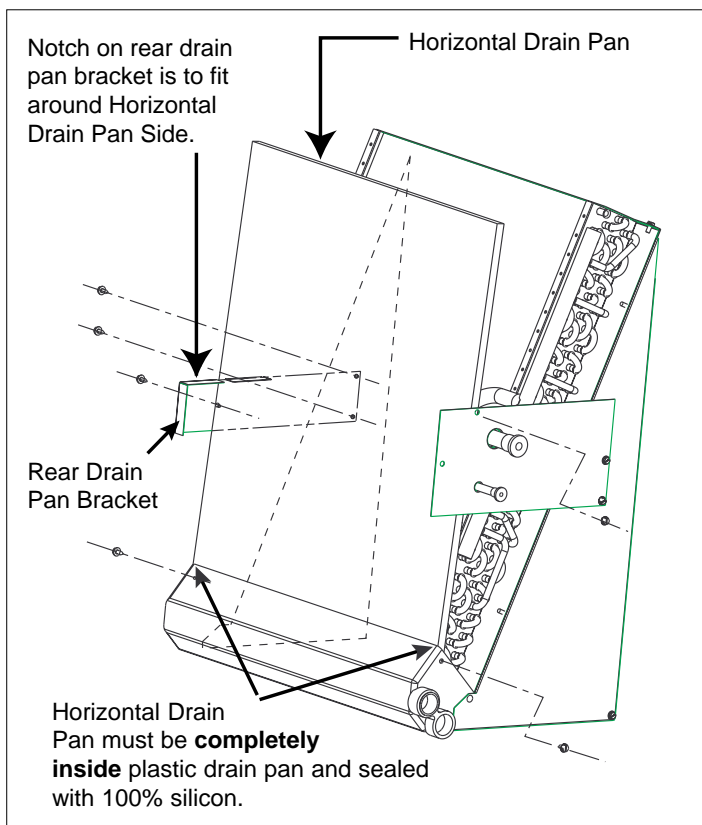

Figure 2. Coil With Drain Pans
4. Install the horizontal drain pan **completely inside** the plastic drain pan of the coil and secure with two screws provided as shown in Figure 2. Seal the metal and plastic drain pan using 100% silicon.